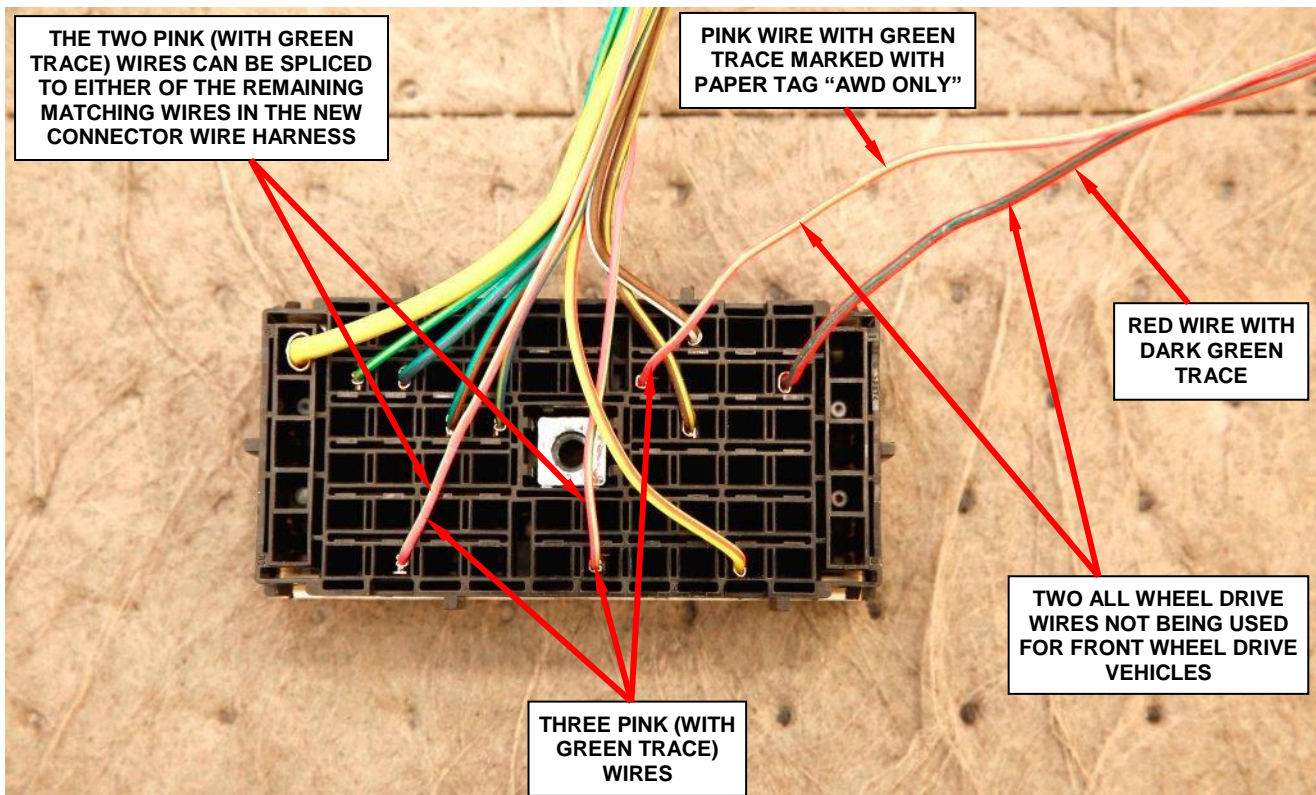

Figure 11 – AWD Wires Not Being Used and Must Be Taped Back to the Wire Harness
14. **For Vehicles not equipped with AWD**, there are two additional wires for the All Wheel Drive (AWD) system (red with a dark green trace wire and pink with a light green trace wire) that will not be used (Figure 11).
NOTE: There are two wires that have same color and have the same tracer strip (pink with green trace) (Figure 11). They are interchangeable when being spliced to the original wire harness. As long as the wire colors on the new connector match the wire colors on the original wire harness, orientation of these two wires to the original wire harness is not connector cavity specific.